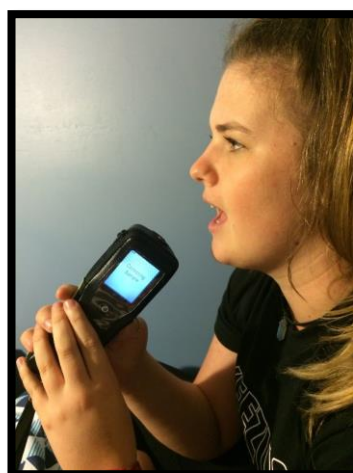

Figure 17 - Providing a Passive sample
- Hold the device no further than 100mm in front of the test subject's mouth; so that the subject is breathing or talking directly into the device's sample inlet port (refer Figure 17).